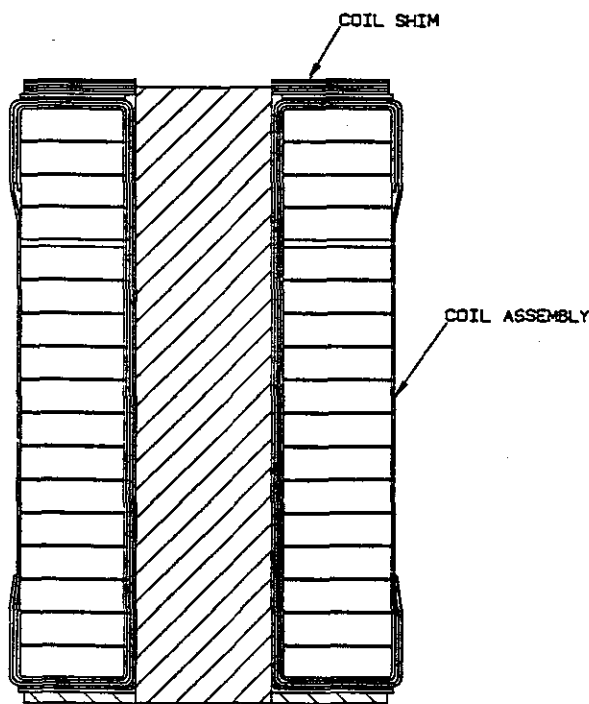

Fig. 22 - Interpole and Coil Assembly Cross-Section
3. On the end of the interpole coil, opposite from the leads, observe either the number taped to the end of the coil or the vertical paint marks (paint marks are on older models). This number or vertical paint marks indicate the number of 0.584 mm metal shims required with the interpole coil. These shims are required to maintain a tight coil. Add only the amount specified, making certain that all shims are aligned centrally on the coil and do not overlap onto pole piece. Refer to Fig. 22.